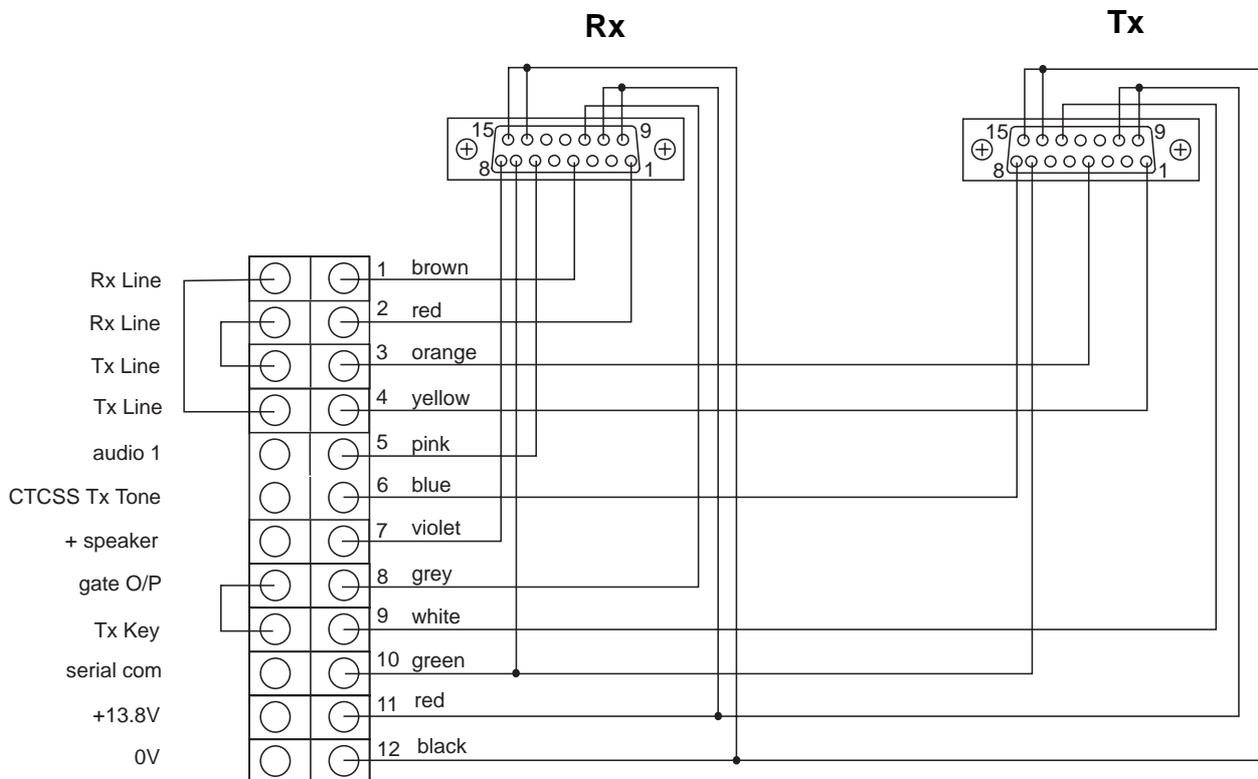

Figure 3 T800-23-0000 Loom Wiring Details
9. Connect the wiring loom to the connector blocks on the rear of the options tray or power supply as shown in Figure 3.